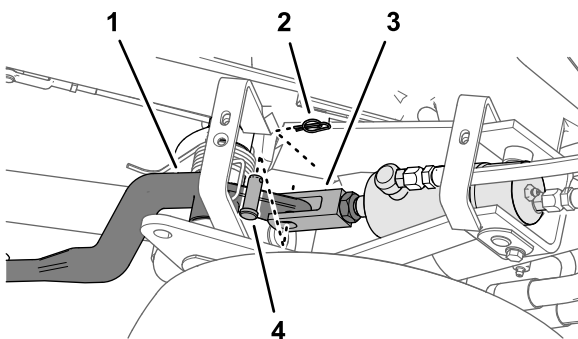
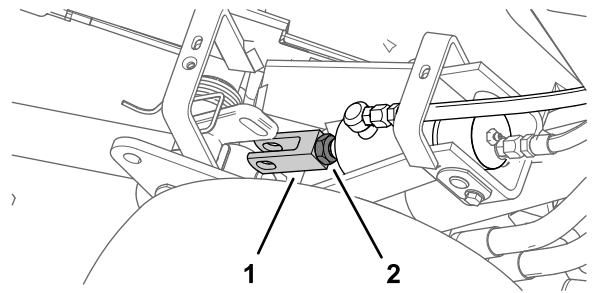

Figure 53
Figure 54
3. Loosen the jam nut securing the clevis fitting to the cylinder of the cutting-unit that needs to be adjusted (Figure 53).
4. Remove the retaining pin and clevis pin (Figure 53)
5. Rotate the clevis until you attain the desired height (Figure 54).
6. Assemble the clevis fitting to the lift arm with the clevis pin and retaining pin, and tighten the jam nut (Figure 53 and Figure 54).